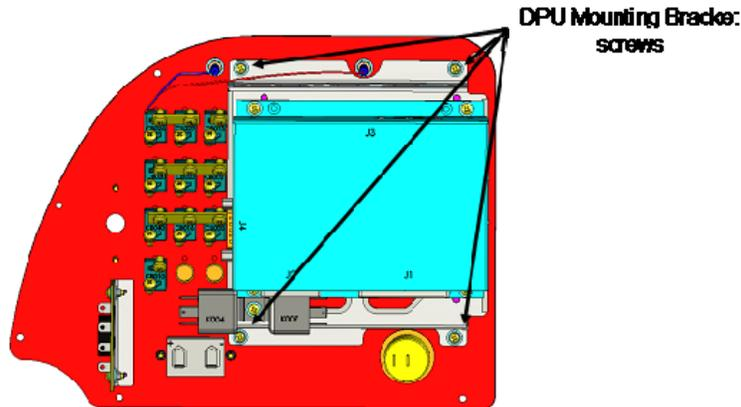

Figure 24-15 DPU Bracket Mounting Screws
10. Remove four (4) 6-32 screws holding the DPU mounting bracket to the circuit breaker panel assembly. See Figure 24-15 for the location of the DPU mounting screws.